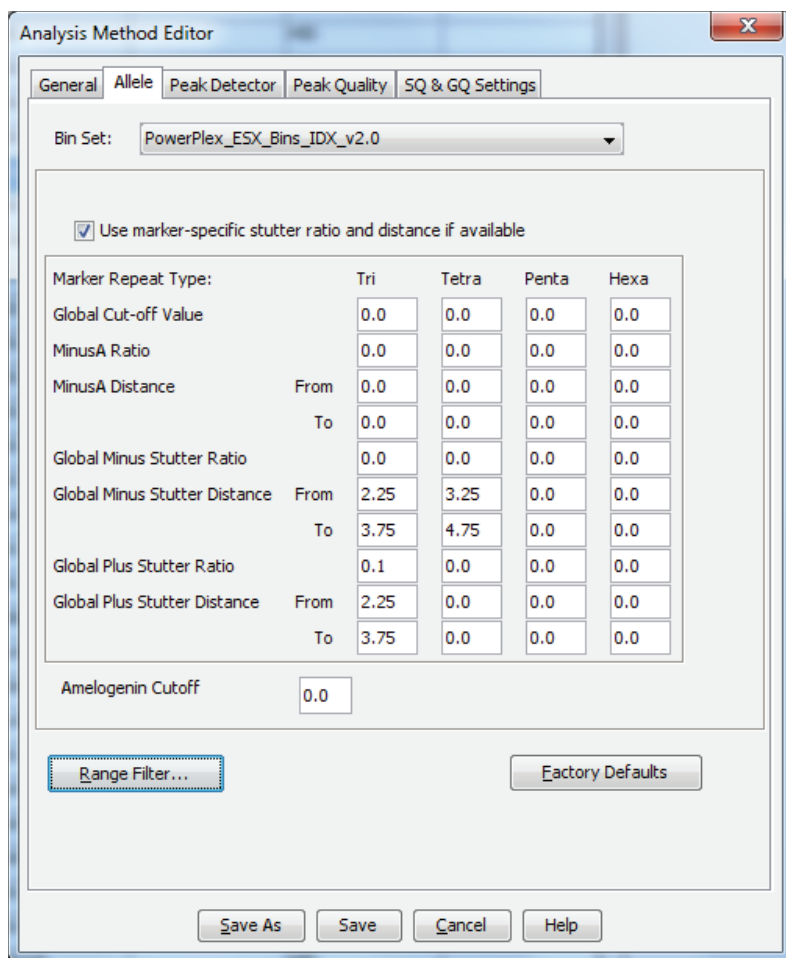

Figure 22. The GeneMapper® ID-X Allele tab.
6. Select the 'Allele' tab (Figure 22).
9. We recommend the values shown in Figure 22 for proper filtering of stutter peaks when using the PowerPlex® ESX 17 System. You may need to optimize these settings. In-house validation should be performed.